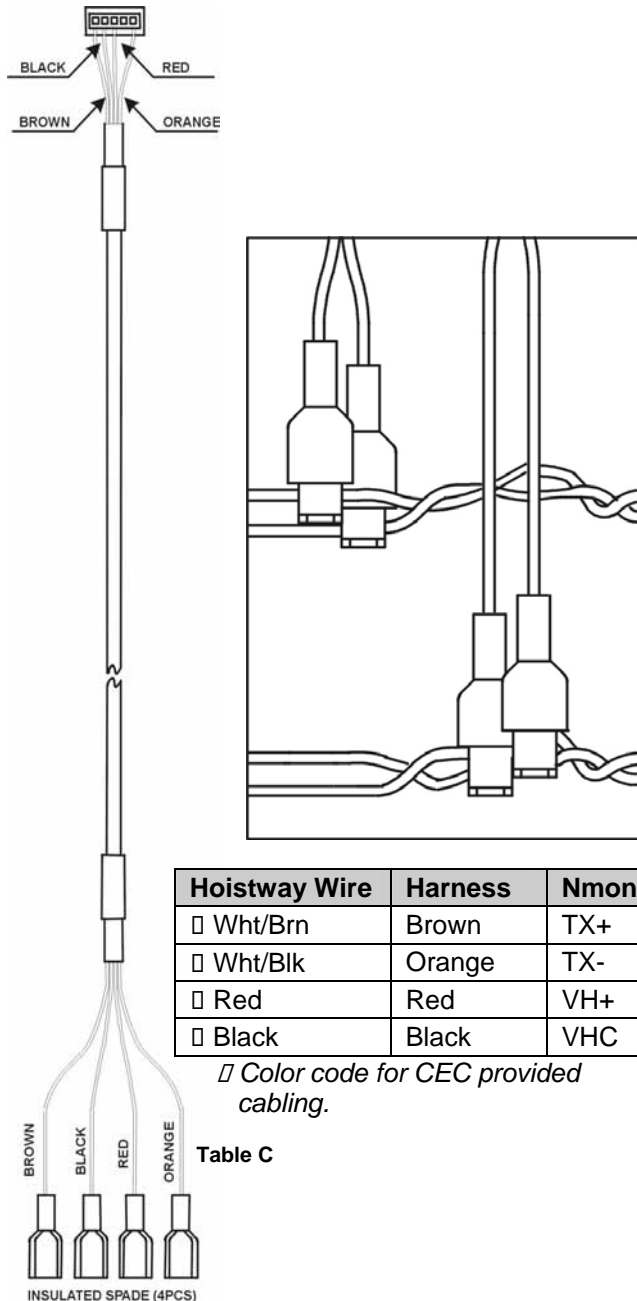

Figure 1-30
- Connect cable to the wires using the fasteners provided. [See Figure 1-30 and Table C.]
- Connect the cable to the wires using the provided fasteners. [See Figure 1-30.]